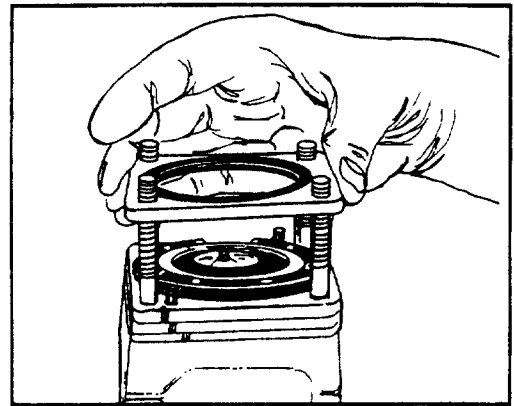

FIGURE 10.
remove valve ring 11. Remove the valve ring (12), discard the two seal rings (3). See figures 10 and 11. The valve ring should be free of nicks and scoring.